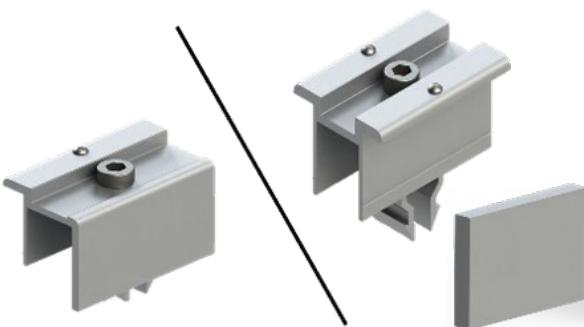

Fig. B2 – KB Konnect End Clamp, KB Konnect Clamp with End Block
- 2 Click the KB konnect end clamp (see Fig. B2) into the top support slot. Install with either KB konnect end clamp or KB konnect clamp and end block.